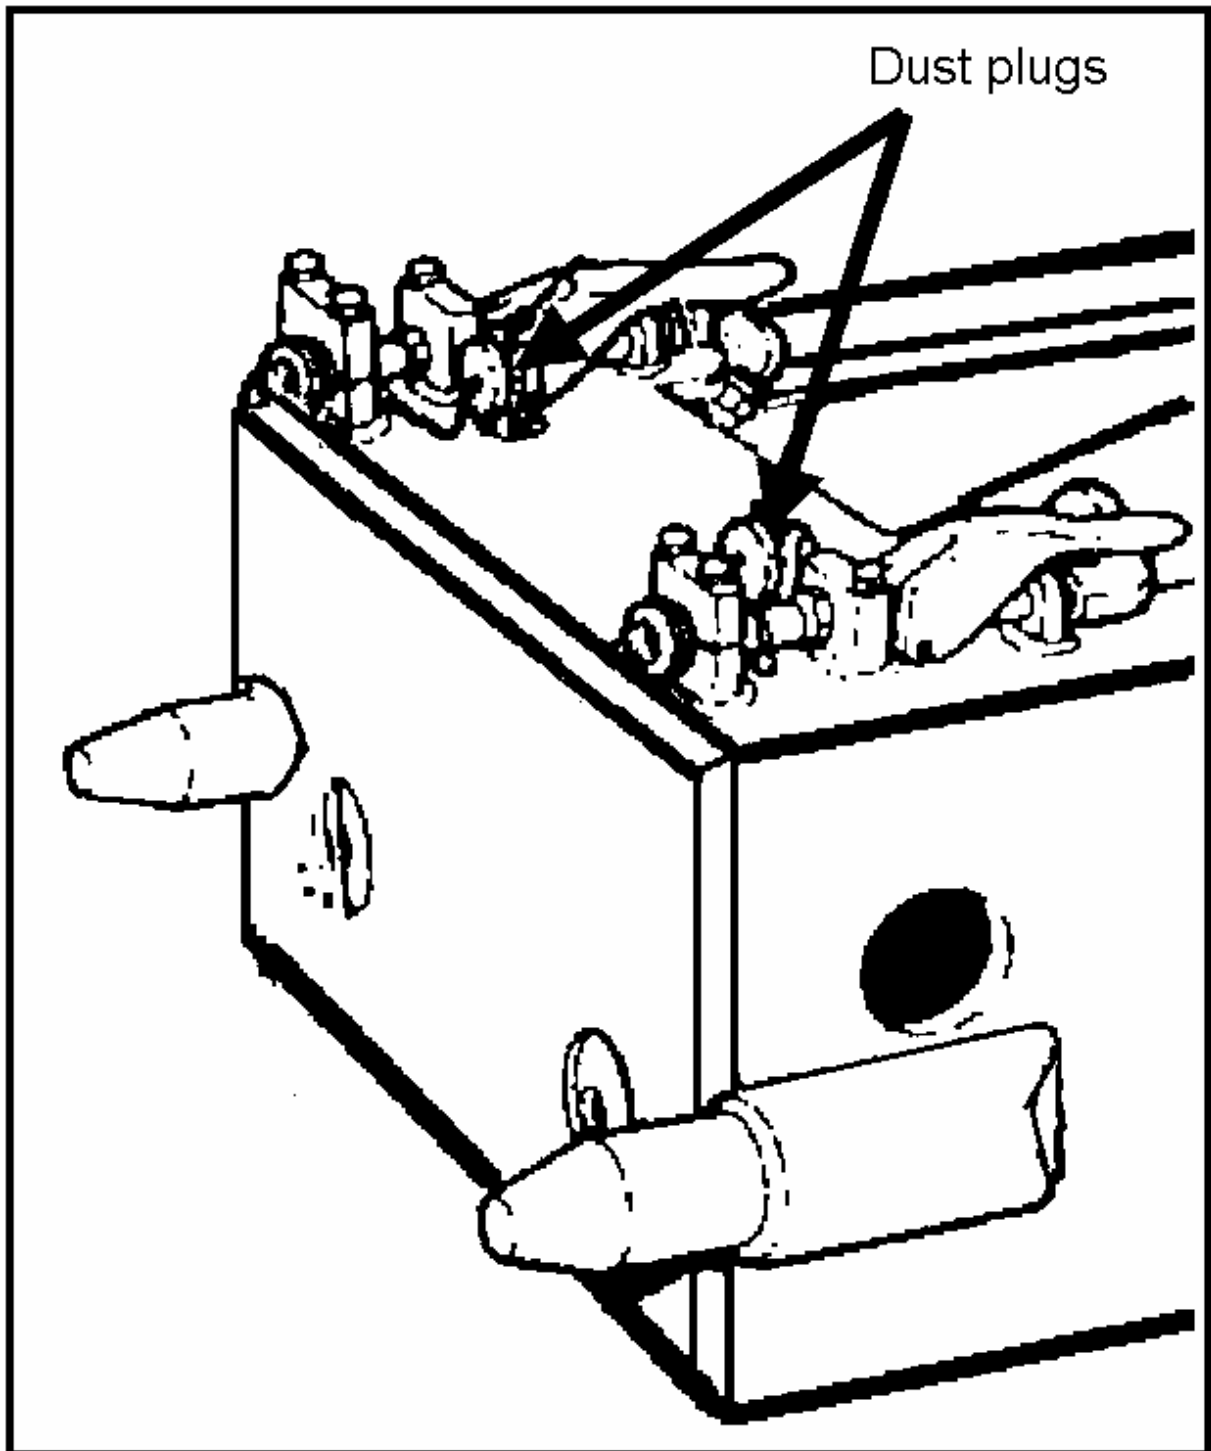

Figure 052-226-1049-10
10. Replace the dust plugs in the quick-disconnect couplings. This prevents dust and grime from entering the couplings (Figure 052-226-1049-10).